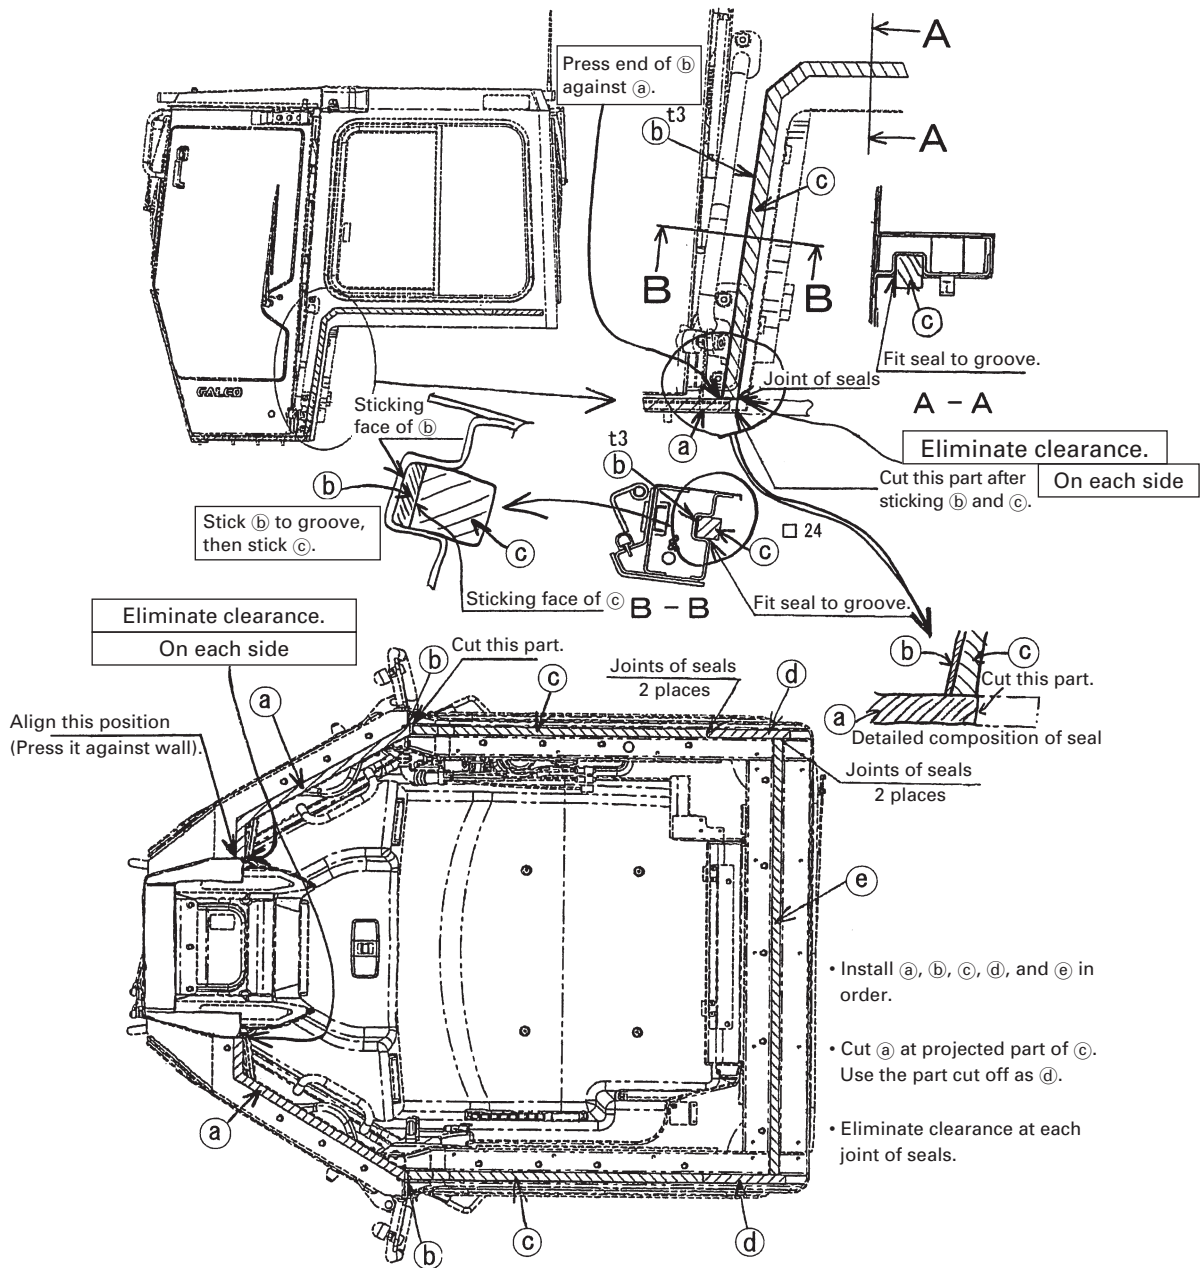

Fig. 5 Method of sticking seals (View from bottom of operator's cab)
- (1) Sling the operator's cab assembly.
- (2) Remove dirt and grease from the surface to stick the seals.
- (3) Remove the release paper from seals (11) and (12) and stick the seals, referring to Fig. 5 on the next page.